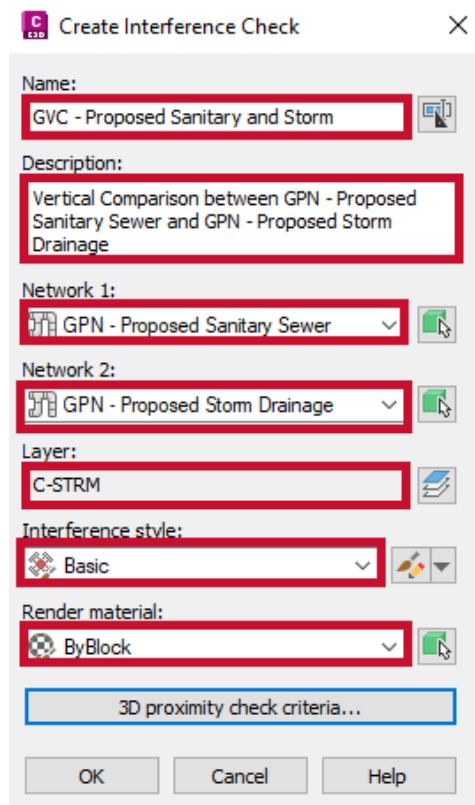

Figure 3.27 – Create Interference Check
7. Next, we'll run the vertical-focused interference check by running through similar steps outlined previously and filling out the **Create Interference Check** dialog box as follows (also displayed in *Figure 3.27*):